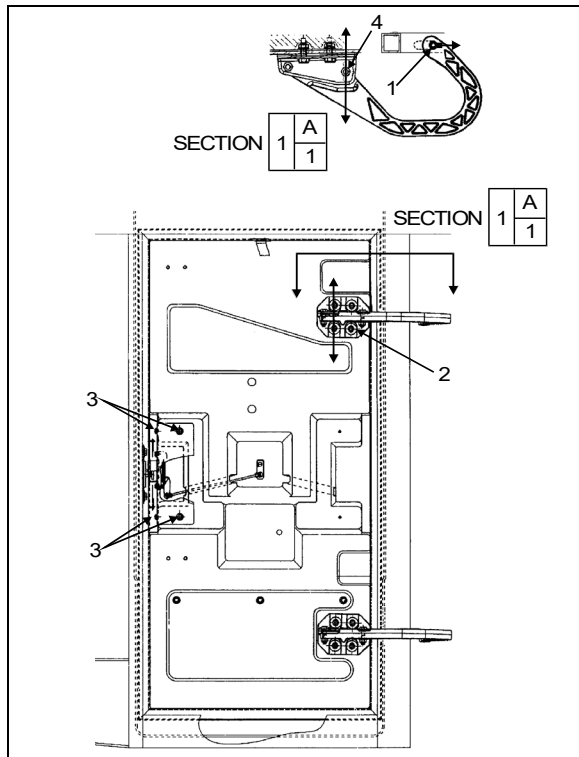

FIGURE 97: MAIN POWER COMP. DOOR 18199
2. Loosen nut (1, Figure 97).
4. Tighten nut (1, Figure 97).
5. Loosen nut (2, Figure 97). Hinge allows the door to be shifted "IN or OUT".
7. Loosen screws (3, Figure 97). Screws allow the door to be shifted "UP or DOWN".